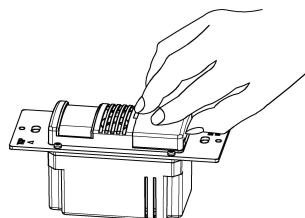

Figure 3
6. Remove the small cover plate. (see **Figure 3**.)
7. Locate the adjustment trimpots on the control panel to perform test and adjustment. (see **Figure 3 and 4**.)